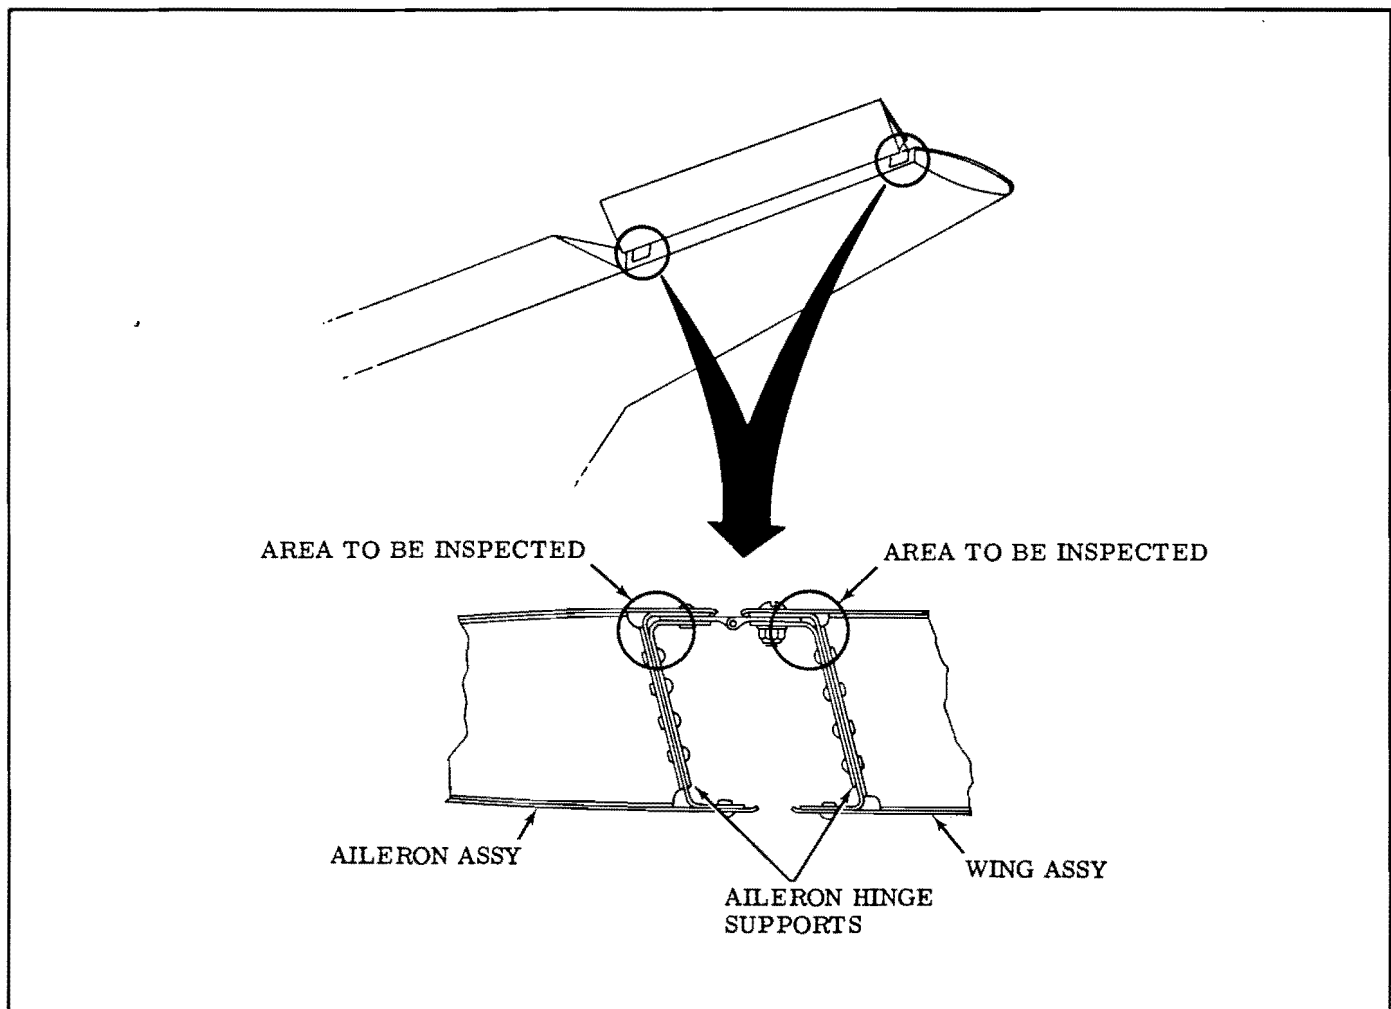

Figure 1.
4. Dye penetrant inspect all aileron hinge supports for possible cracks in areas of bend radius (see Figure 1.).